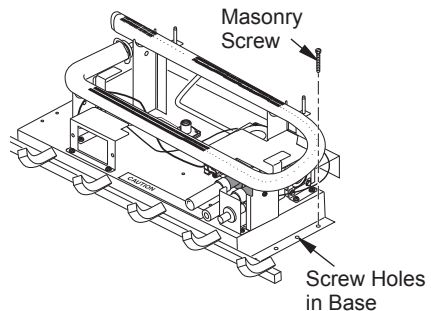

Figure 13 - Attaching Heater to Fireplace Floor (Remote-Ready Model Shown)
7. Mark screw locations through one hole on each side of the base (see Figure 13). If installing in a brick-bottom fireplace, mark screw locations in mortar joint of bricks.